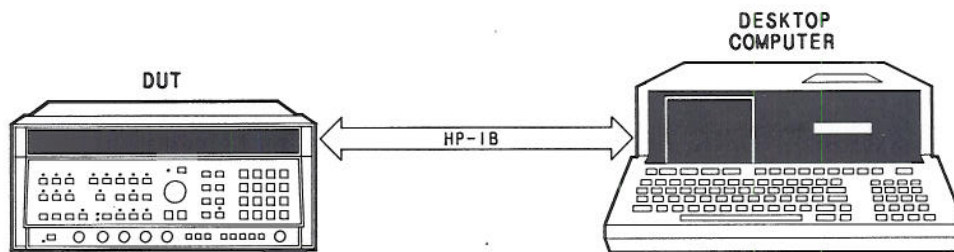

Figure 4-24. HP 8340A Option H02 HP-IB Operation and Verification Test Setup
1. Connect the equipment as shown in Figure 4-24. Enter the program shown in Table 4-34 if the HP 85F is used, or the program in Table 4-35 if the HP 9826A or 9836A is used. Press the RUN key. The program will display the DUT's status bytes similar to Table 4-33. After the program goes through the output loop routine about two times, all status bits should be "0" and the DUT should be in LOCAL mode (front panel REMOTE indicator not ON).